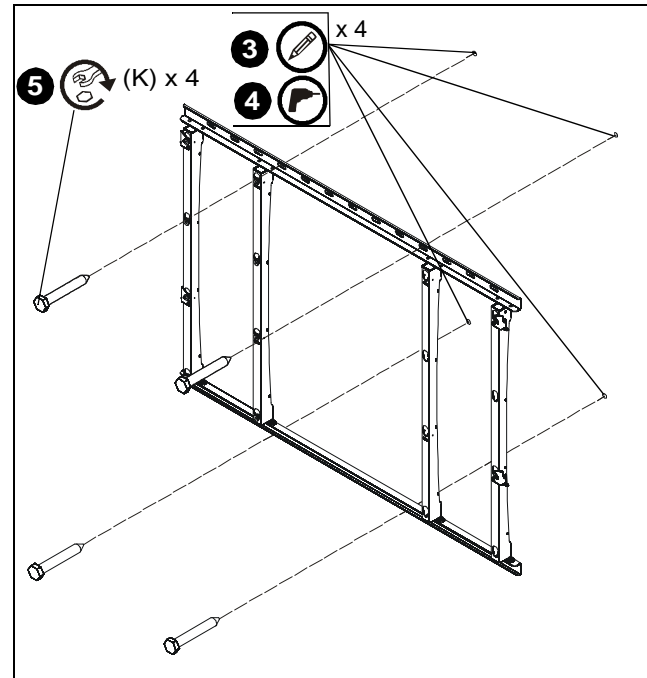

Figure 5
3. Using assembled mount as a template, mark four holes on wall. Use a level to make sure of an even mount. (See Figure 5)
4. Drill four 1/4" holes 2 1/2" deep in wall at marked locations. (See Figure 5)
5. Install four 3/8 x 2 1/2" hex head lag screws (K) through holes on mount and into four drilled holes on wall. (See Figure 5)